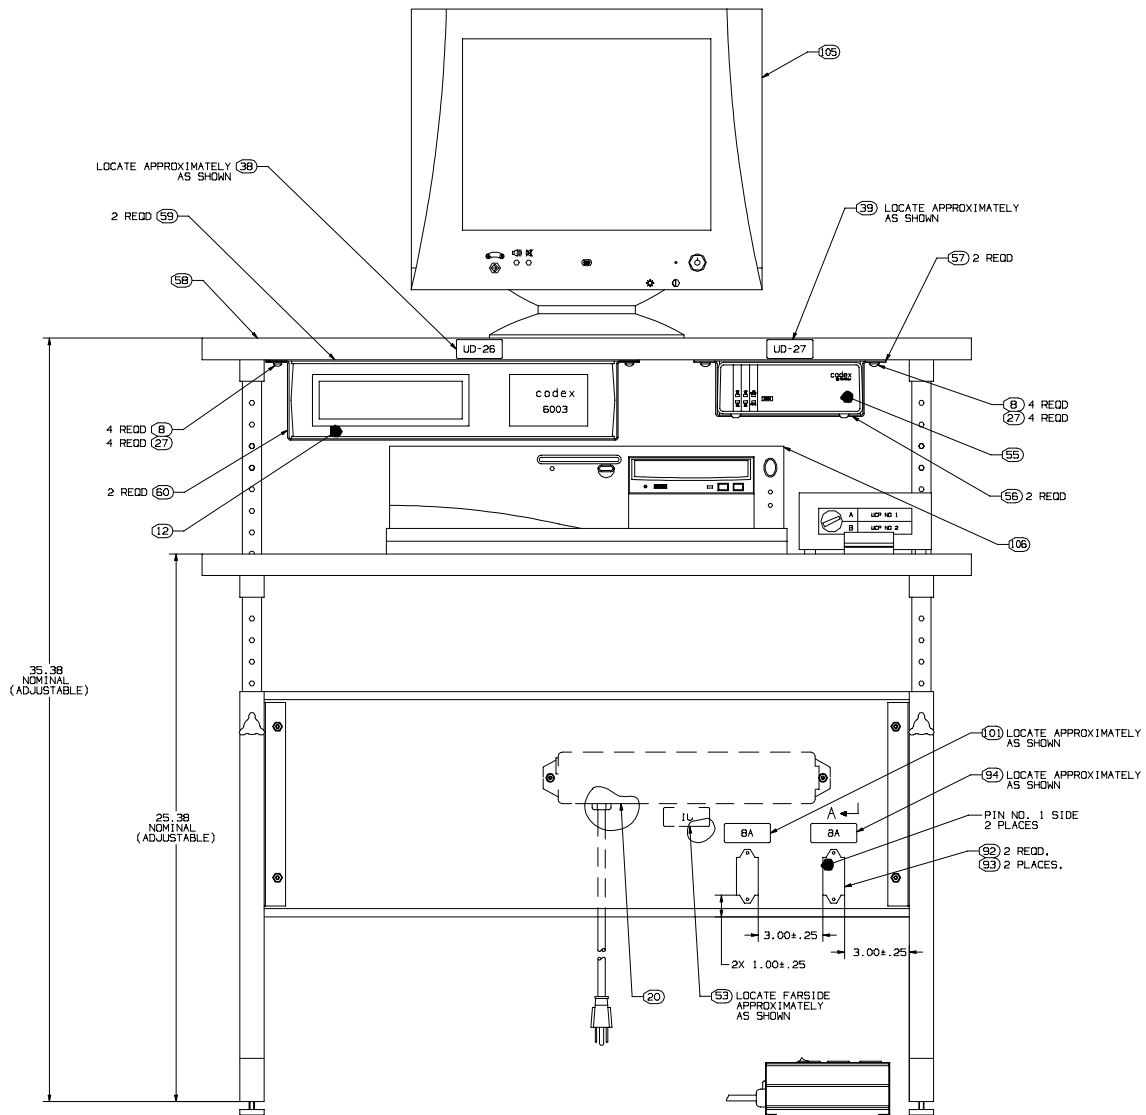

Figure 8 CP Tango AB Configuration
a. Refers to figures 8, 9 and 10.
(1) At the punch block locate the phone lines to the RPG and to Yongsan.